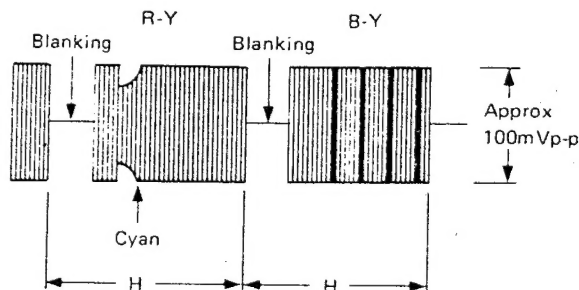

Figure 3.
3. Adjust LM51 for the flat level of amplitude in each colour bar waveform on the scope. (See figure 3.)